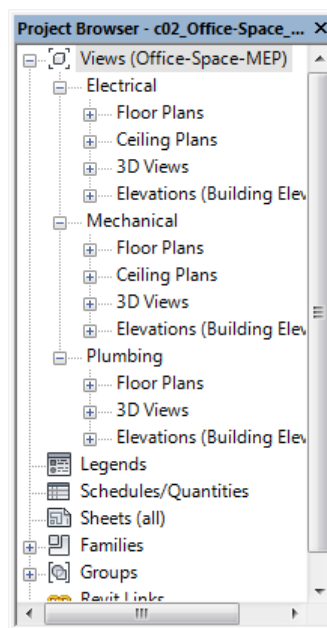

Figure 2-33 The **Project Browser** displaying the settings specified in the **Office-Space-MEP** browser organization
9. In the **View** tab of the **Browser Organization** dialog box, select the **Office-Space-MEP** check box. Now, choose the **Apply** button and then the **OK** button; the dialog box is closed and the specified settings are applied to the **Project Browser**, refer to Figure 2-33.